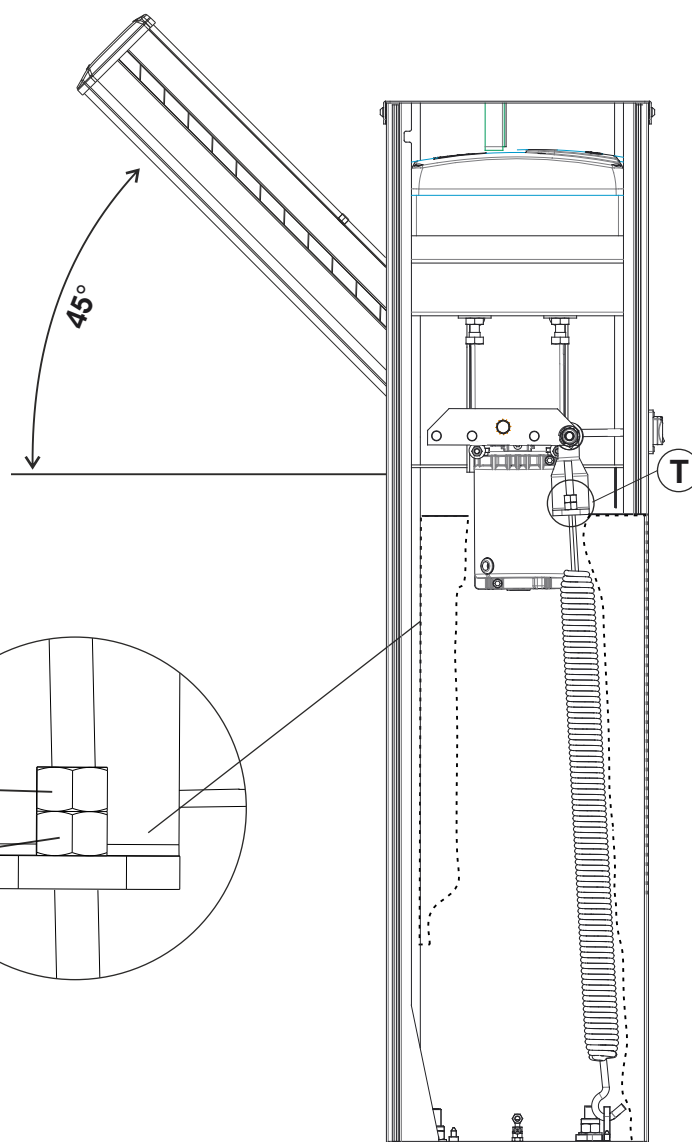

Fig. 10
- Release the beam with manual release, so that it is free to be opened and closed manually (Fig.10).
- Loosen or tighten the spring stretching nut until the spring counterbalances the weight of the 45° beam (Fig.10). The best balancing position is obtained when the beam reaches the position shown in Fig. 10.